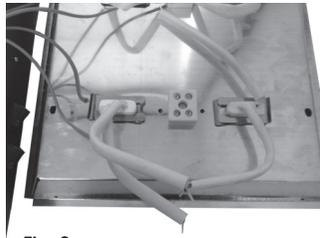

Fig. 9
4. Unscrew the element leads from the terminal block (make a note of where the brown & blue wires are connected), (Fig.9).